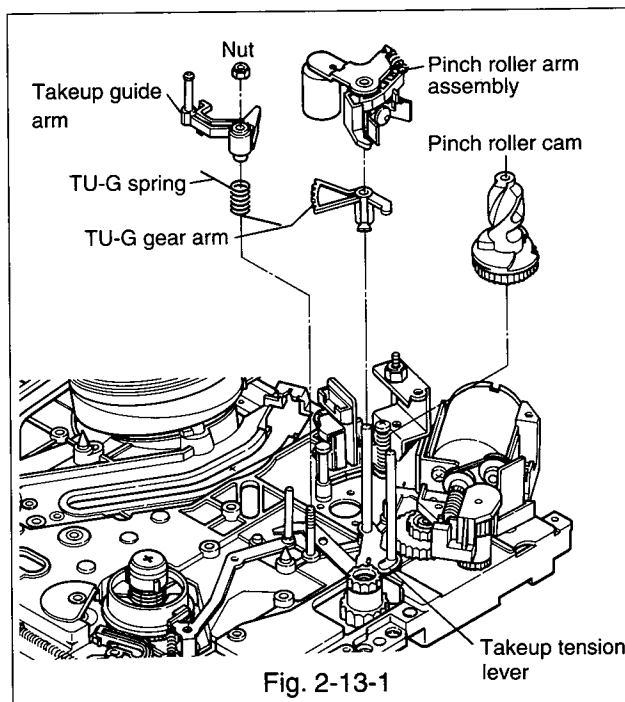

Fig. 2-13-1
2-13-1 Removal(Refer to Fig. 2-13-1.)
2-13-2 Installation(Refer to Fig. 2-13-1~2-13-3.)
- Turn the takeup tension lever fully clockwise as shown in Fig. 2-13-1.
- Assemble the pinch roller arm assembly to the shaft on the main plate.(Refer to Fig. 2-13-1.)